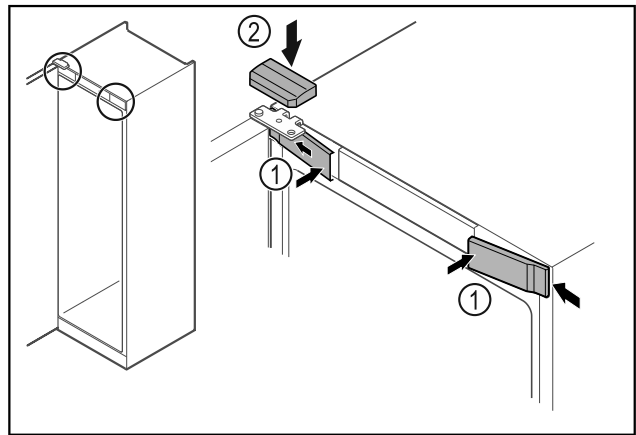

Fig. 49 *
- Hook in the front covers Fig. 49 (1) on the side and snap them into place.*
- Snap on the top cover Fig. 49 (2) from above.*